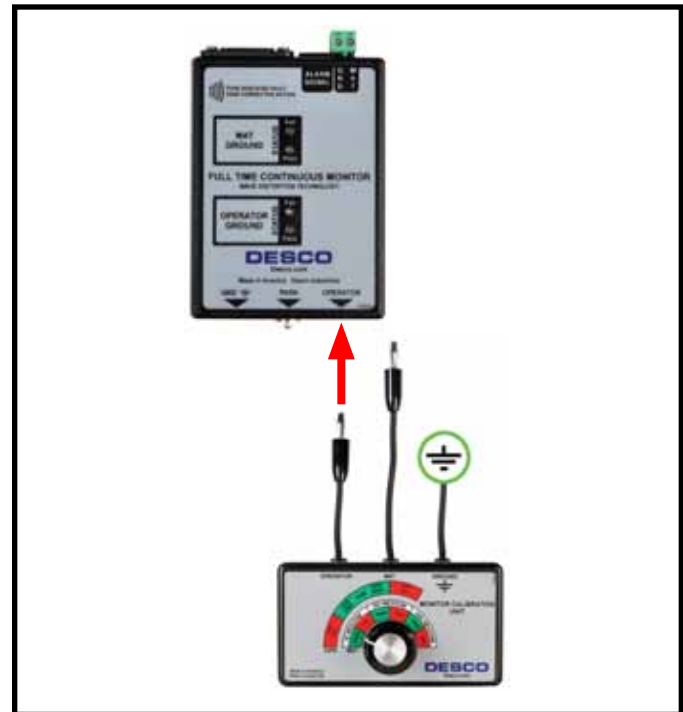

Figure 2. Connecting the OPERATOR test lead from the Monitor Calibration Unit to the Full Time Continuous Monitor
Step 2: Insert the Calibration Unit’s banana plug labeled “OPERATOR” into the jack labeled “OPERATOR” on the Full Time Continuous Monitor (see Figure 2). Power the monitor.